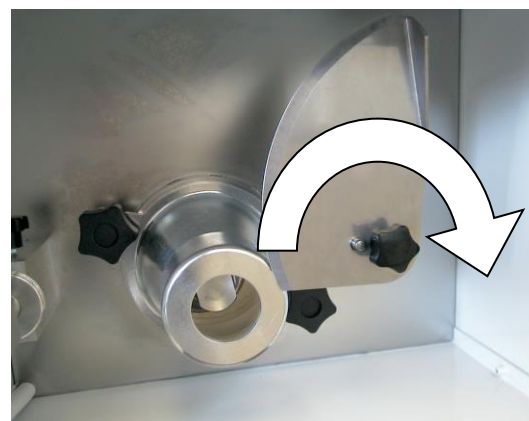

Fig. 6
2. LOCKERN SIE DEN KNOPF UND LEGEN SIE DAS MESSER (Fig.6)